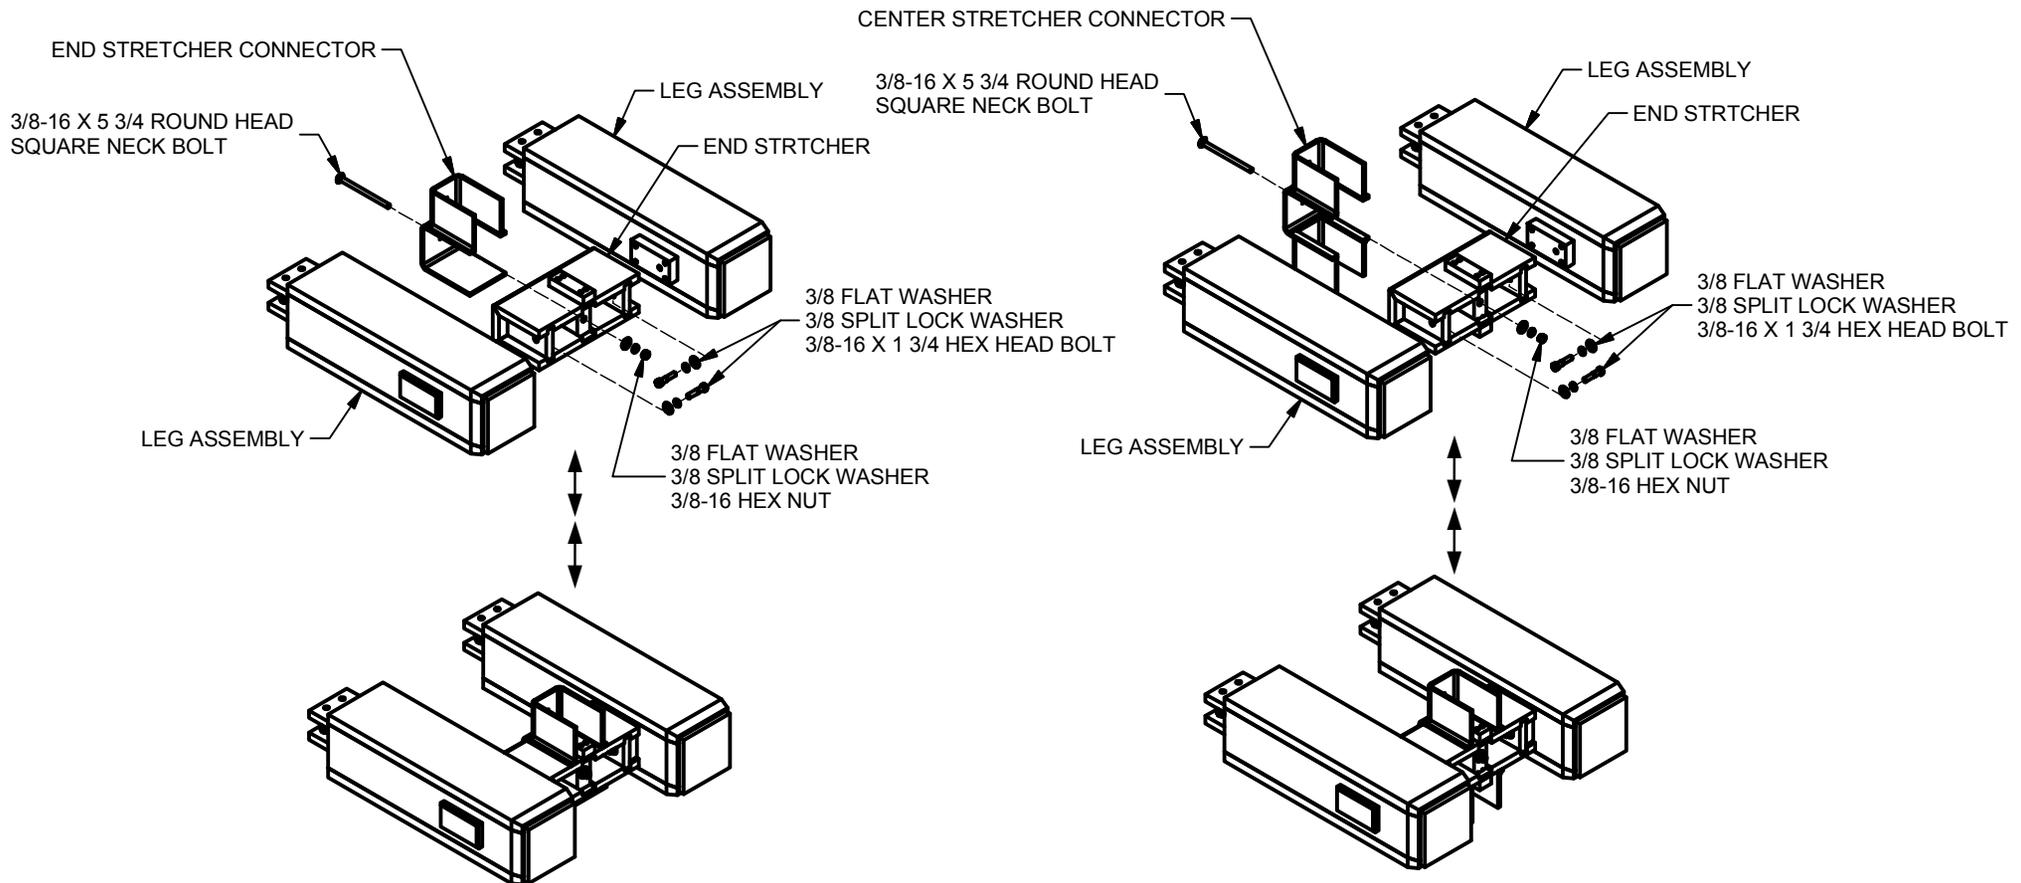

FIGURE 1
Step 1: Assemble (2)legs, (1)end short stretcher, and (1)end stretcher connector using (1)3/8-16 x 5 3/4 round square neck bolt, (2)3/8-16 x 1 3/4 hex head bolt, (3) 3/8 flat washer, (3)3/8 split lock washer, and (1)3/8-16 hex nut as shown in FIGURE 1.(END ASSEMBLY)